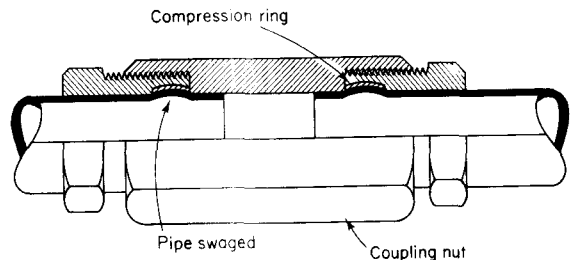

Fig. 4.162. Compression joint for compressed air lines
3. **Manipulative compression joint** (Figs 4.162 and 4.163). The tube is swaged or flared by using special tools.